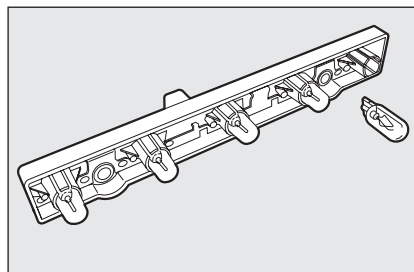

fig. 26
- ☐ remove and replace the bulbs **fig. 26**.